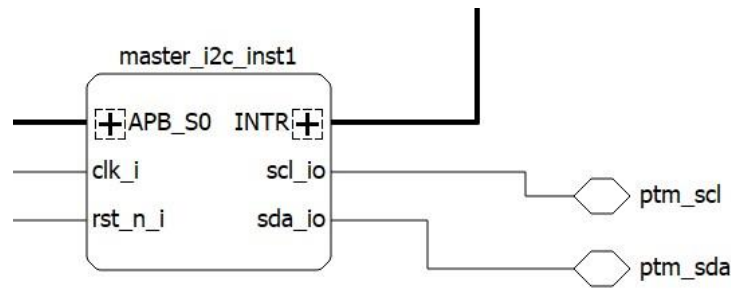

Figure 3.16. Propel Builder – I²C Ports Connected
12. Connect the newly created ports to the respective ports of the I²C Master component, as shown in Figure 3.16.